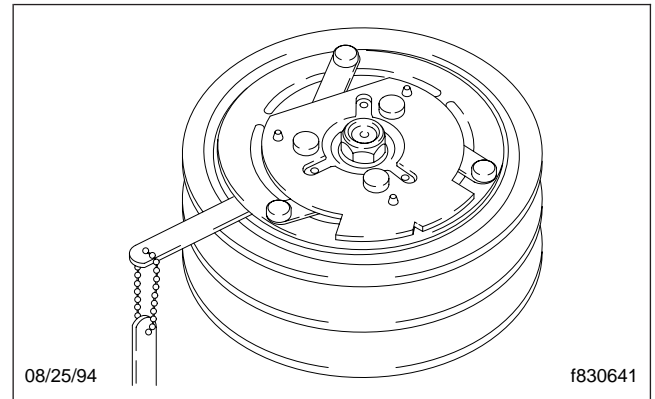

Fig. 1, Drive Plate Clearance Inspection
4. On a Sanden refrigerant compressor, use a feeler gauge to check that the drive plate clutch clearance is 0.016 to 0.03 inch (0.4 to 0.8 mm). See **Fig. 1**. If the drive plate clutch requires adjustment, see **Group 83** of the *L-Line and A-Line Workshop Manual*.